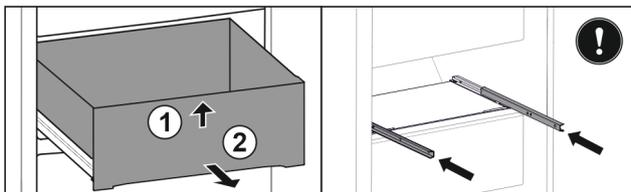

Fig. 123
- ▶ Lift up drawer at the front. Fig. 123 (1)
- ▶ Remove drawer to the front. Fig. 123 (2)